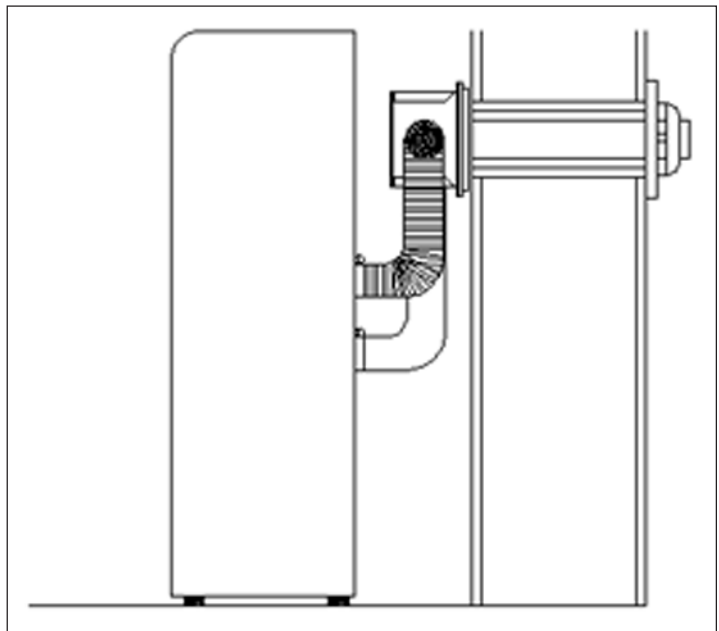

FIGURE 8
- e) Secure air intake hose to back of heater and the collector box assembly using hose clamps provided. (See Figure 8).
- f) Secure vent exhaust tube to exhaust tube on back of heater and the exhaust tube on the collection box assembly using hose clamps provided. (See Figure 8).